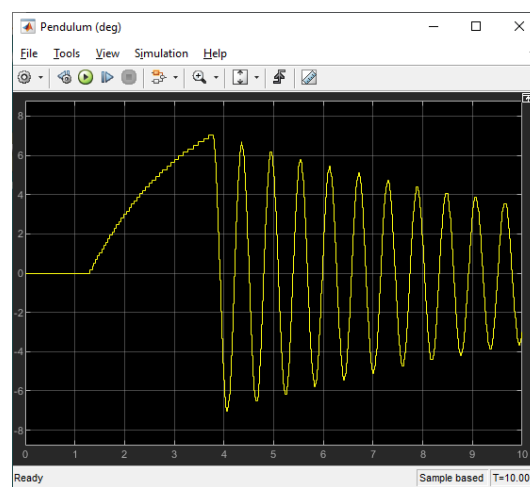

Figure 2.2: Free-oscillation response of pendulum
7. Run the Simulink model. With the model running, manually bring up the pendulum to the 10 degrees by clicking on the *Lift pendulum* button in **QLABS®**. The scope response should be similar to Figure 2.2.